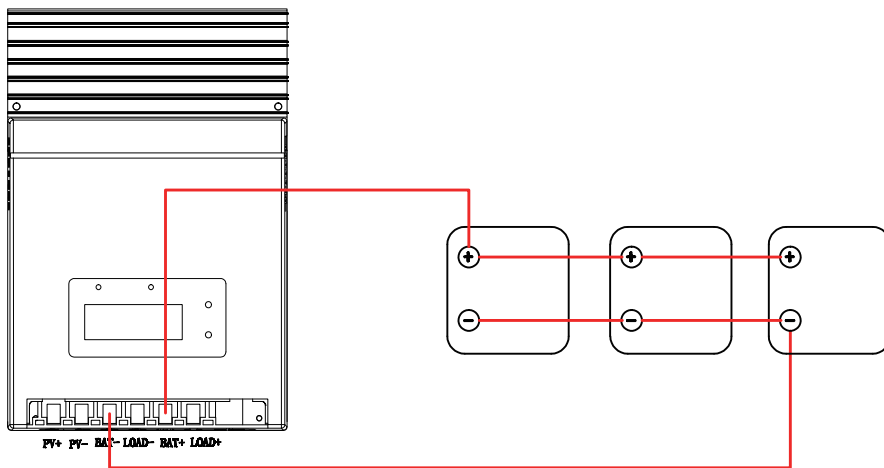

Figure 3-6. Batteries in parallel connection
2) Multiple batteries in parallel connection(Refer to Fig.3-6): Each battery's voltage must be equal to the Nominal DC Voltage of the unit.